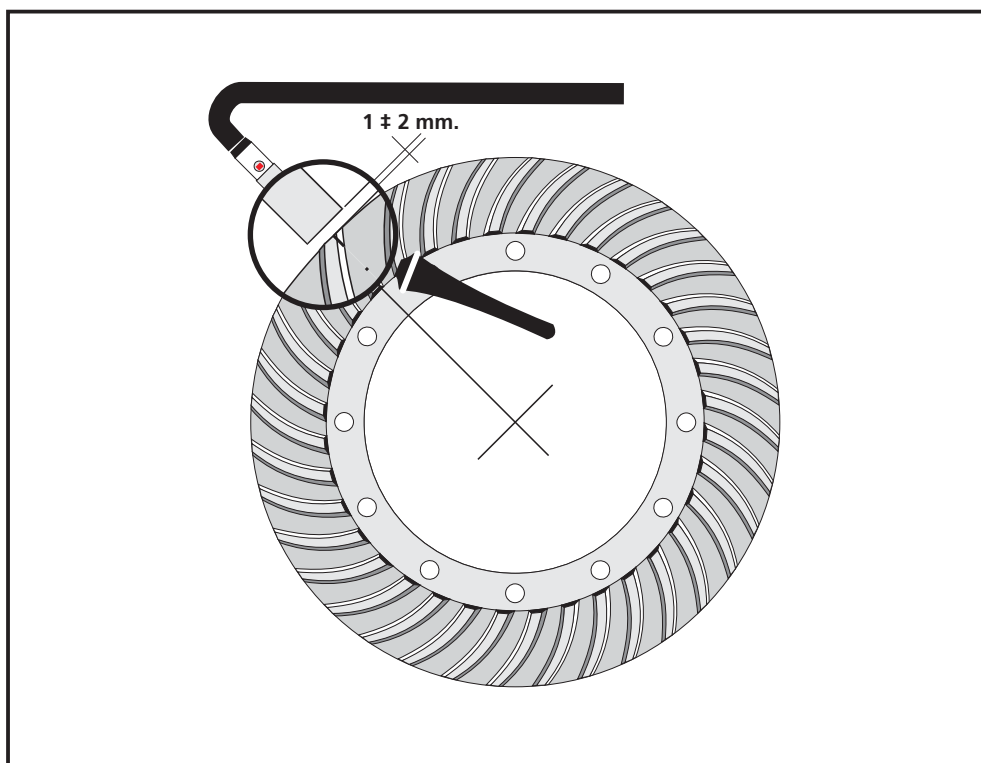
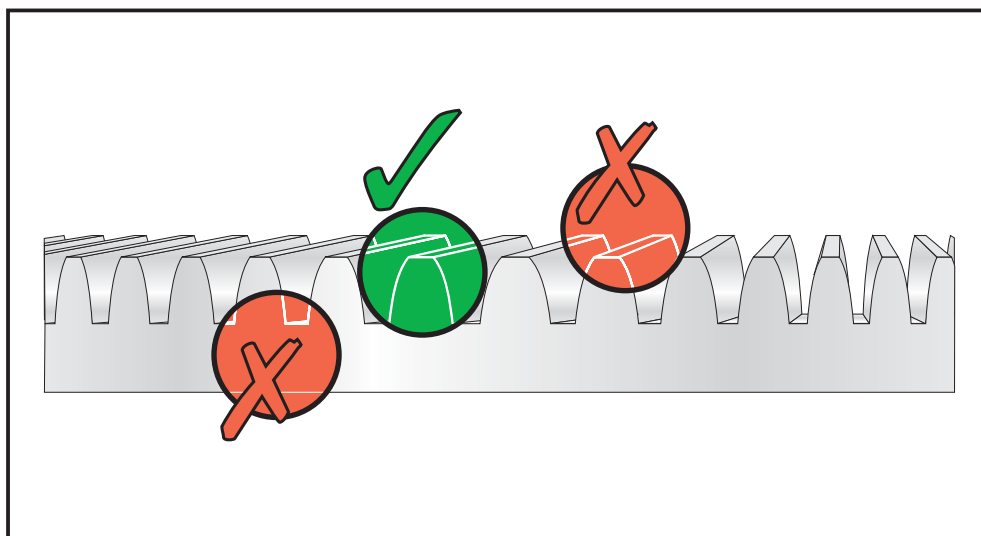

Figure 3.5 Crown wheel
Figure 3.6 The teeth of the crown wheel
1. The extended, imaginary centre line of the proximity switch (Figure 3.5) must intersect the centre of the crown wheel (Figure 3.6).
3. The teeth (Figure 3.6) of the crown wheel must pass underneath the proximity switch. The proximity switch must be able to detect each individual tooth.